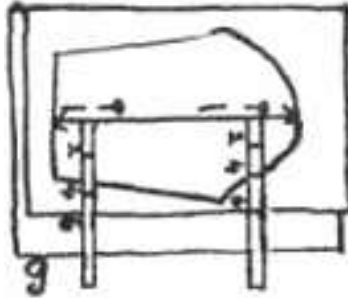

Fig.12.1g
6. Straight grain lines on patterns must be kept parallel to the fabric selvedge. To ensure this, measure and adjust the pattern so that both ends of the straight grain line are the same distance from the selvedge (see the sleeve pattern in Fig.12.1g) and pin the pattern to the fabric along the grain line arrows.